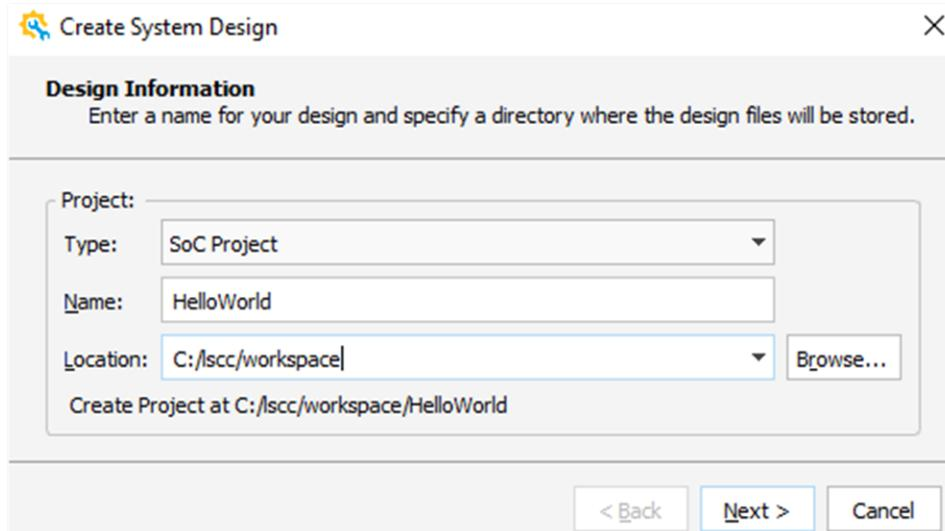

Figure 2.9. Create System Design – Design Information Wizard
1. Choose **File** > **New Design** from the Lattice Propel Builder Menu bar. The Create System Design wizard (Figure 2.9).opens